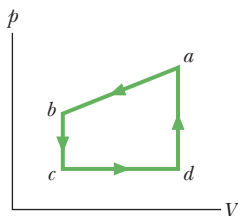

Figure 18-42 Problem 49.
•49 **GO** Figure 18-42 represents a closed cycle for a gas (the figure is not drawn to scale). The change in the internal energy of the gas as it moves from  $a$  to  $c$  along the path  $abc$  is  $-200$  J. As it moves from  $c$  to  $d$ ,  $180$  J must be transferred to it as heat. An additional transfer of  $80$  J to it as heat is needed as it moves from  $d$  to  $a$ . How much work is done on the gas as it moves from  $c$  to  $d$ ?